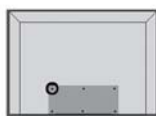

Figure 1
2. Unscrew the screws and remove the cover (figure 1).